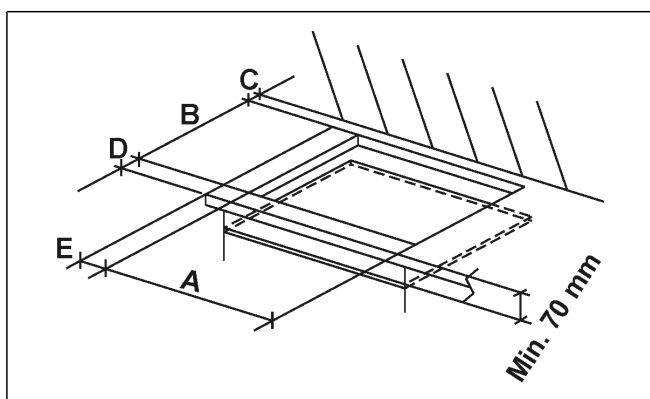

FIG. 7
The measurements of the opening made in the top of the modular cabinet and into which the hot plate will be installed are indicated in either fig. 7. Always comply with the measurements given for the hole into which the appliance will be recessed (see fig. 7 and 8).
- In order to avoid accidental touch with the overheating bottom of the hob, during the working, is necessary to put a wooden insert, fixed by screws, at a minimum distance of 70 mm from the top (see fig. 7).